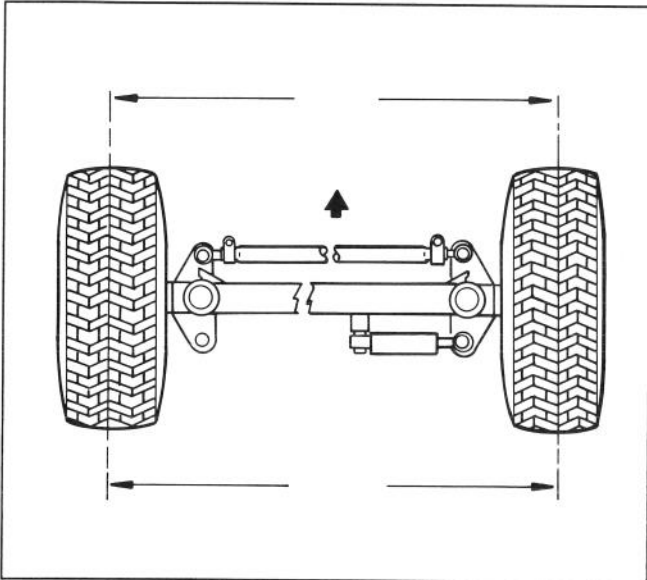

Figure 49
1. Measure center-to-center distance (at axle height) at front and rear of steering tires (Fig. 49). Front measurement must be 1/8 in. less than rear measurement.